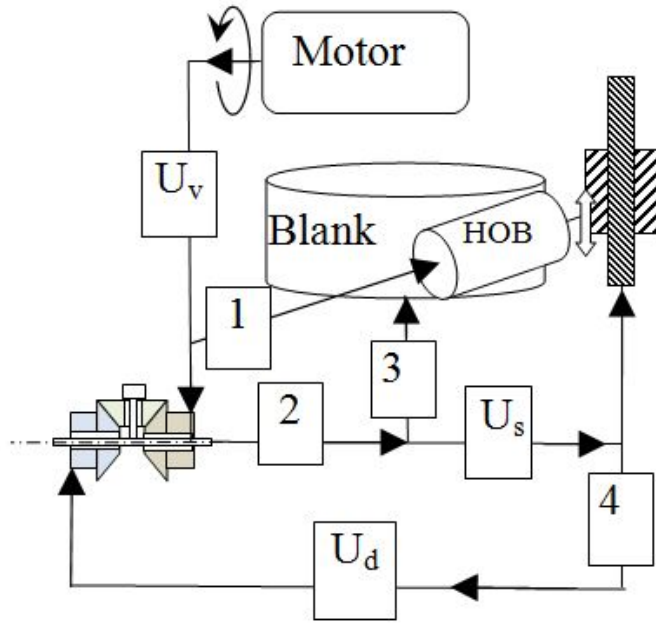

Fig. 2
5) In the figure of a gear hobbing machine (Fig. 2) , the correct position of the index change gear box is